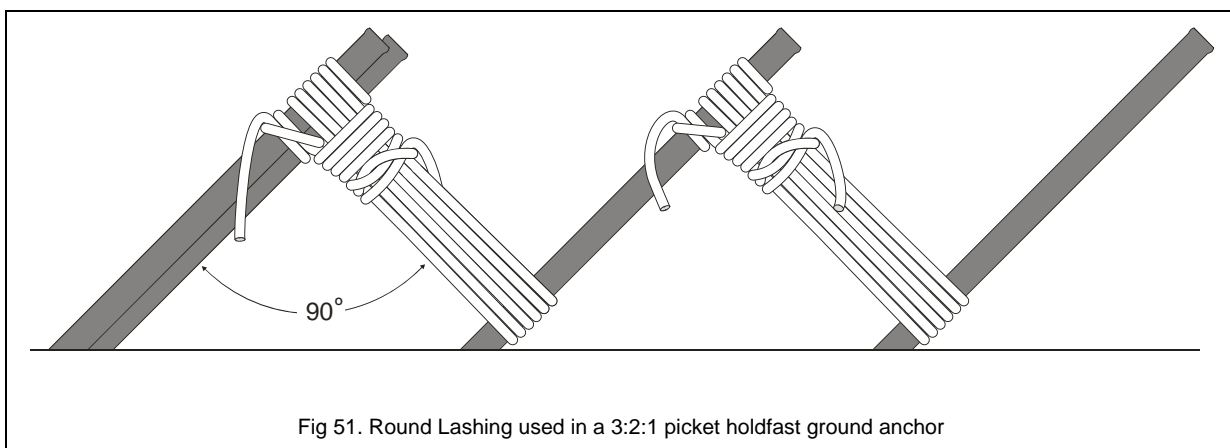

Fig 51. Round Lashing used in a 3:2:1 picket holdfast ground anchor
- Used to tension and secure pickets in picket holdfast ground anchor systems as shown in figure 51.